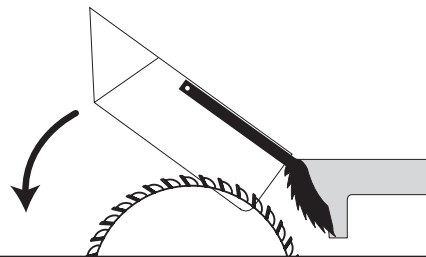

Figure 55. Typical ripping operation.
10. Use a push stick to feed the workpiece through the saw blade, as shown in **Figure 55**, until the workpiece is completely past the saw blade.